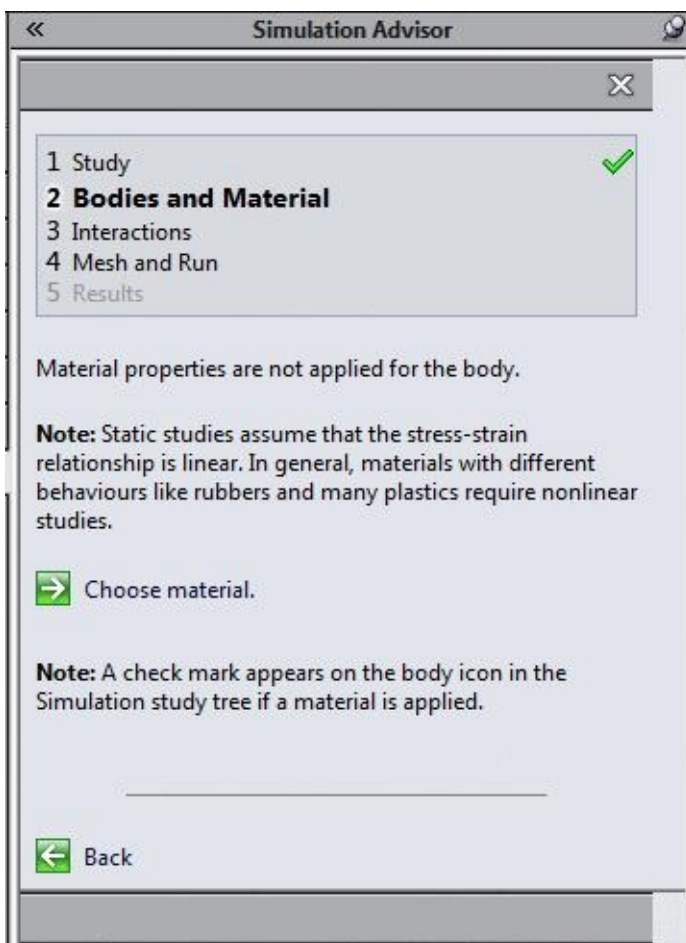

Figure-43. Material page of Simulation Advisor
- Now, click on the **Next** button from the body setup page of **Simulation Advisor**. The material page will be displayed; refer to Figure-43.